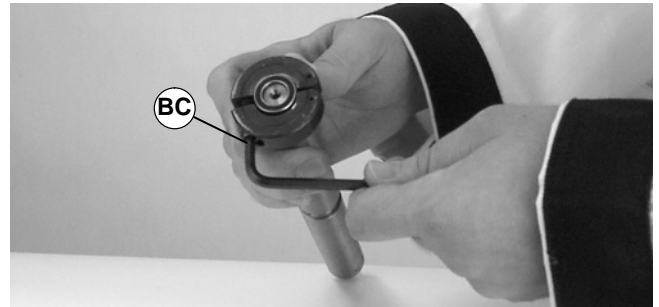

Figure 41
2. Using 3/16" hex key wrench (BC of Figure 41), tighten tool.